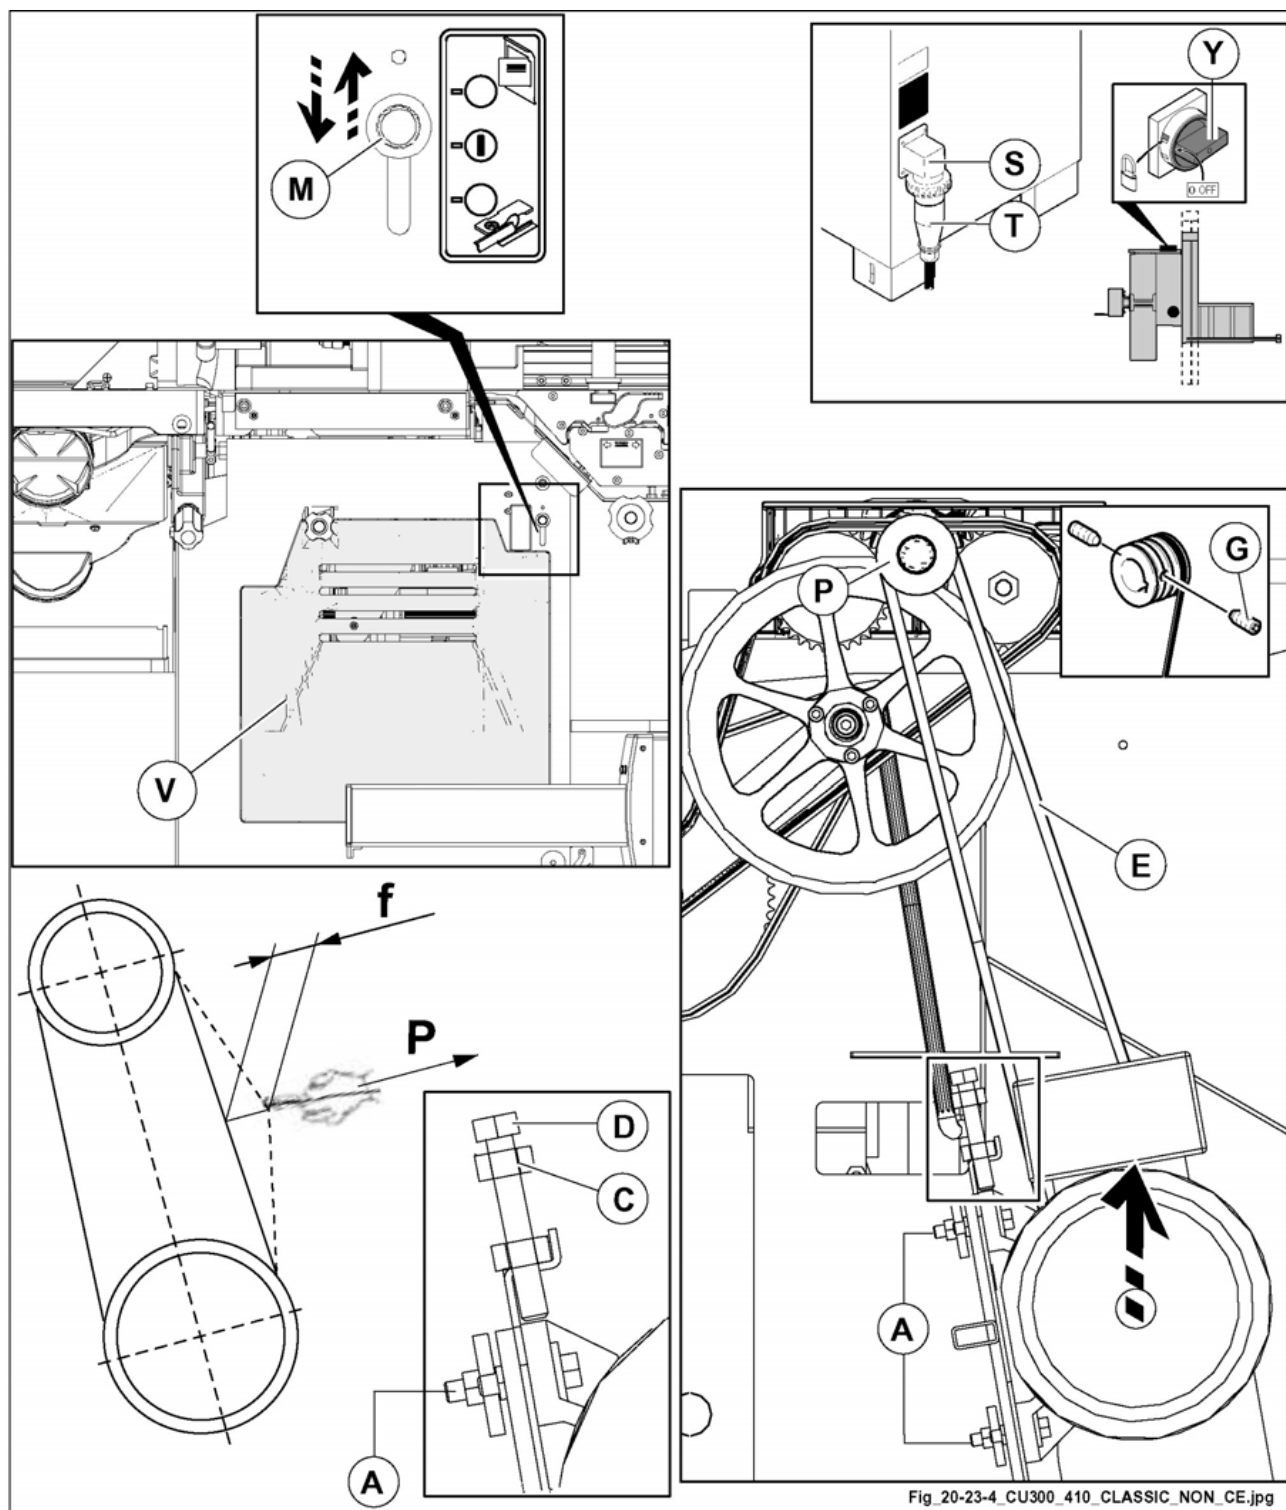

Fig. 20.23-4
before carrying out any of the operations make sure to cut the main electric power and disconnect socket (T fig. 20.23-4) from plug (S fig. 20.23-4).
U.S.A. and CANADA version: before carrying out maintenance operations, adjustments or to dismount any machine member turn main switch (Y fig. 20.23-4) to 0, lock it then indicate this with a sign.
- Lift the lever (M fig. 20.23-4);
- Open the door (V fig. 20.23-4).
- Slacken the 4 retaining nuts (A fig. 20.23-4) of the motor support.
- Slacken nut (C fig. 20.23-4).
- Tighten the belt screwing down the screw (D fig. 20.23-4).
- When the adjustment has been made, tighten nuts (A fig. 20.23-4) and (C fig. 20.23-4).
- Close the door (V fig. 20.23-4).
- Lower the lever (M fig. 20.23-4).